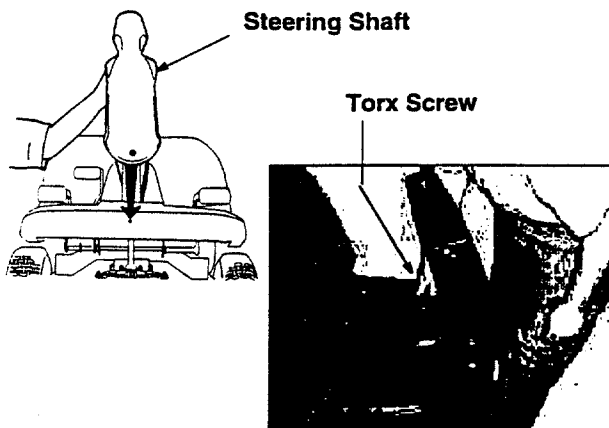

Figure 6
- Slide the steering shaft over the steering tube and secure with three Torx head machine screws. See Figure 6.